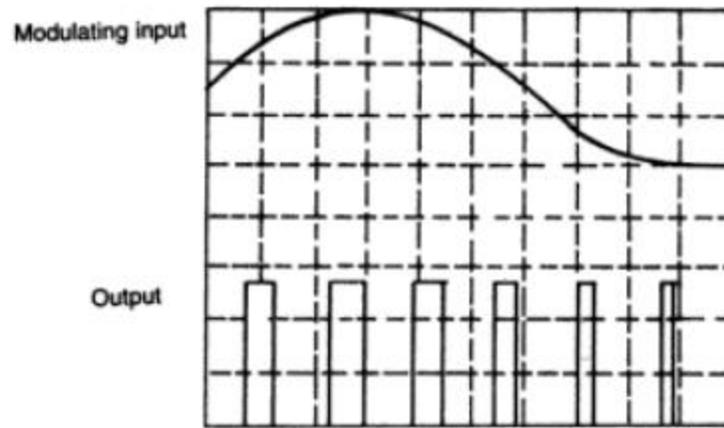

Figure 14: Pulse width modulator waveforms
- The modulating signal and the output waveform are shown in Fig. 14. It may be noted from the output waveform that the pulse duration, that is, the duty cycle only varies, keeping the frequency same as that of the continuous input pulse train trigger.